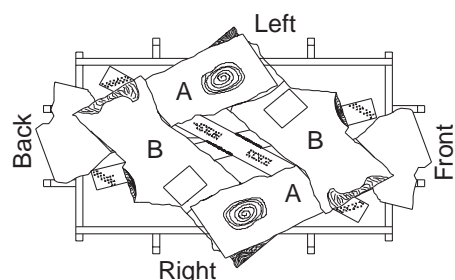

Figure 45 - Installing Logs "B" (Top View)
9. Place logs “B” as shown in Figure 45, page 19. Lift the end of log “A” that will be propped up and place log “B” under it. At the same time, the other side of log “B” is placed over the other log “A”. Repeat procedure for the other log “B”.